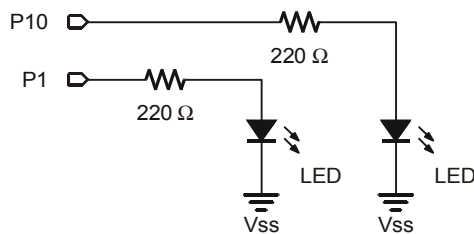

Figure 5-9
- ✓ If you have a Board of Education, add the circuit shown in Figure 5-9 with the help of the wiring diagram in Figure 5-10 (page 175).
- ✓ If you have a HomeWork Board, add the circuit shown in Figure 5-9 with the help of the wiring diagram in Figure 5-11 (page 176).